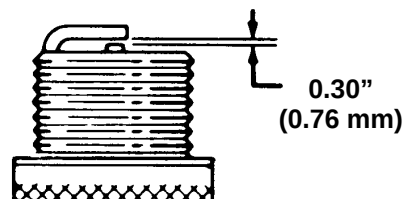

Figure 30
3. Set the air gap between the electrodes of the spark plug at 0.030 in. (0.76 mm) (Fig. 30).